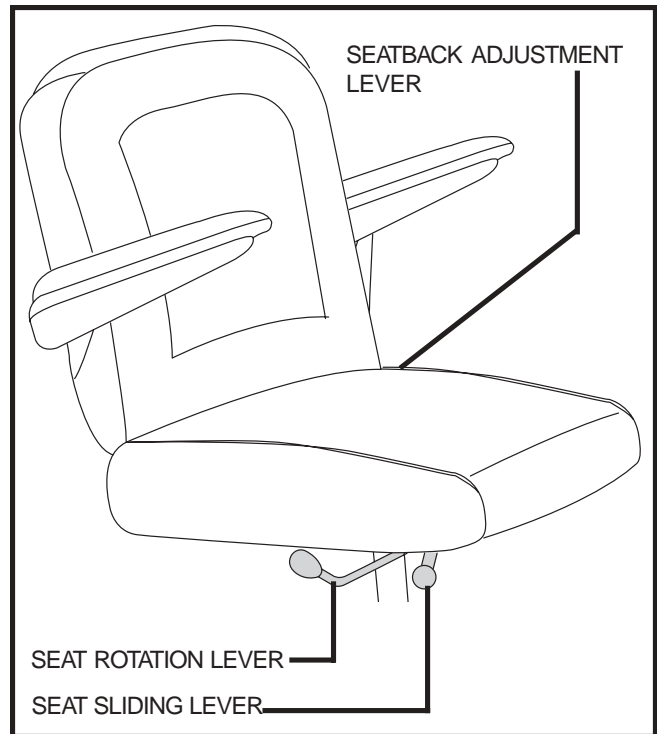

Figure 15. Seat Adjustments
1. Pull back on the seat rotation lever to unlock the seat. See figure 15.
You can reposition the seat forward or rearward to adjust the distance between the seat and the tiller. See figure 15.
To adjust the reclining seat, perform these steps. See figure 15.